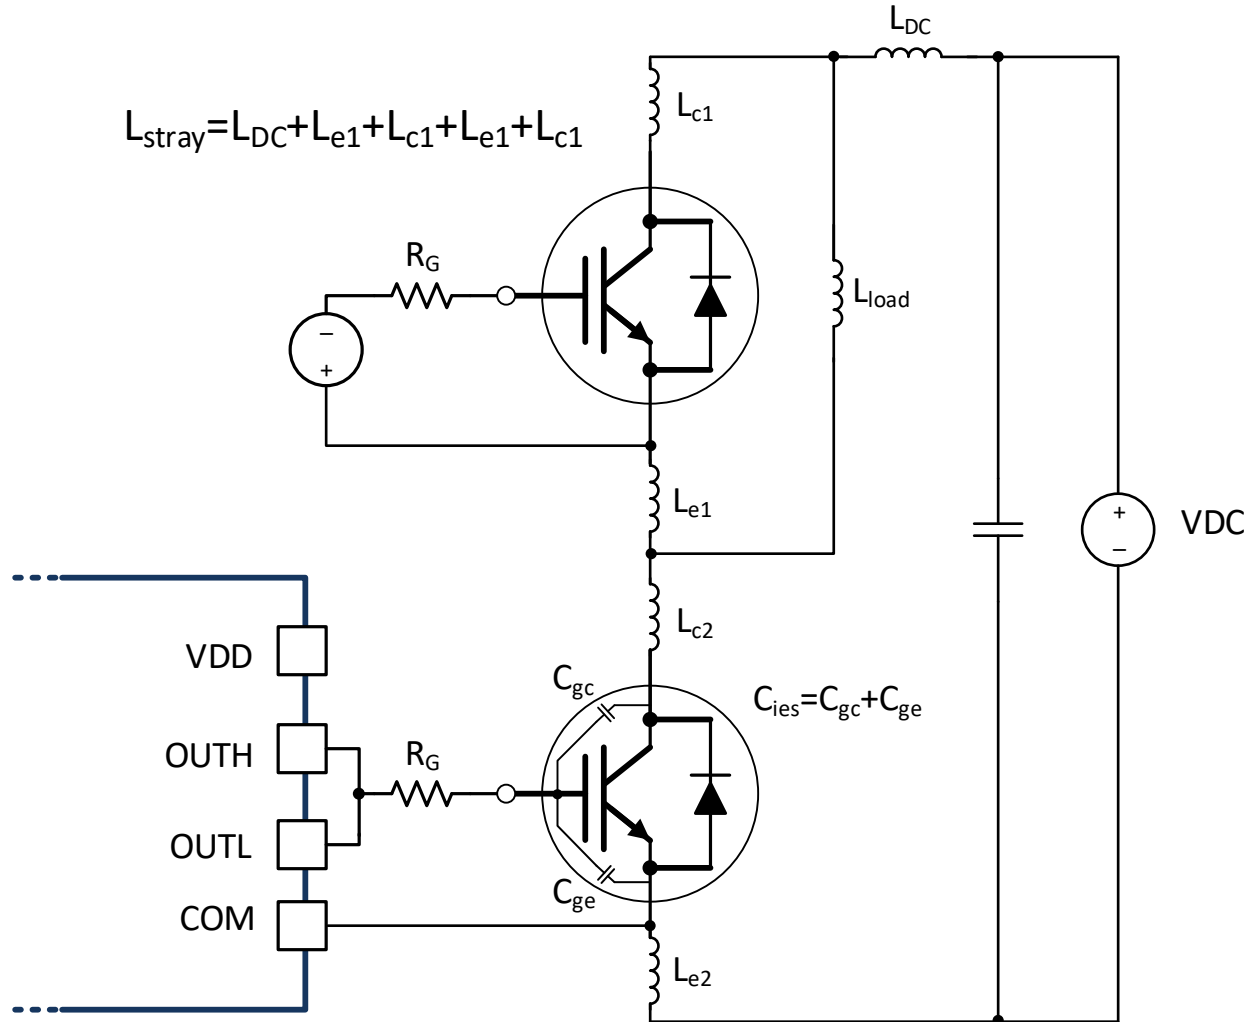

图 9-6. Stray Parasitic Inductance of IGBTs in a Half-Bridge Configuration
- L_{stray} is the stray inductance in power switching loop, as shown in 图 9-6.